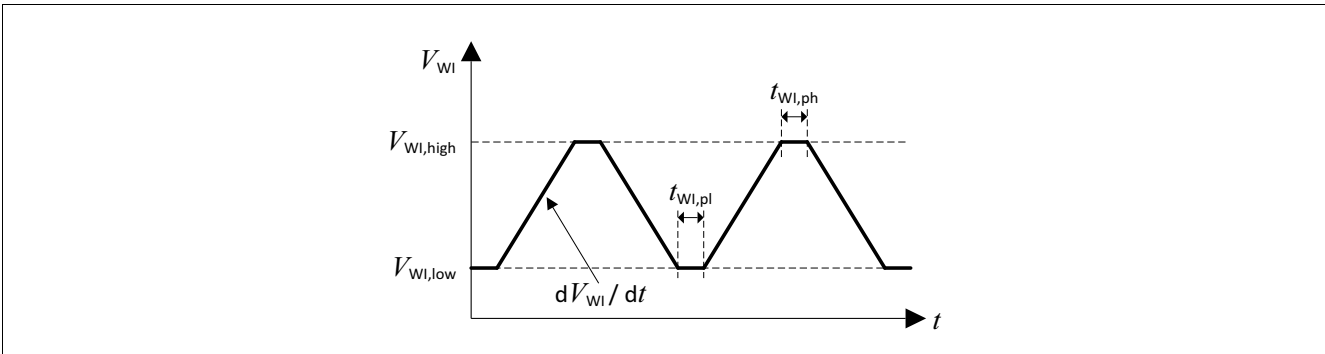

Figure 9 Test pulses watchdog input WI
The watchdog is triggered by a falling edge at the watchdog input pin “WI”. The amplitude and slope of this signal has to comply with the specification (Table “Watchdog input WI” on Page 26). For details regarding test pulses, see Figure 9 “Test pulses watchdog input WI” on Page 25.
- 2) For details on applied test pulse, see Figure 9